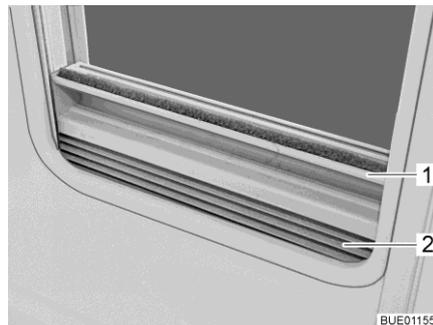

Fig. 52 Roman shade
- Closing:** ■ Grip the Roman shade (Fig. 52,2) in the middle of the holding bar (Fig. 52,1), pull it upwards and then release it at the desired height. The Roman shade will stay at this height.